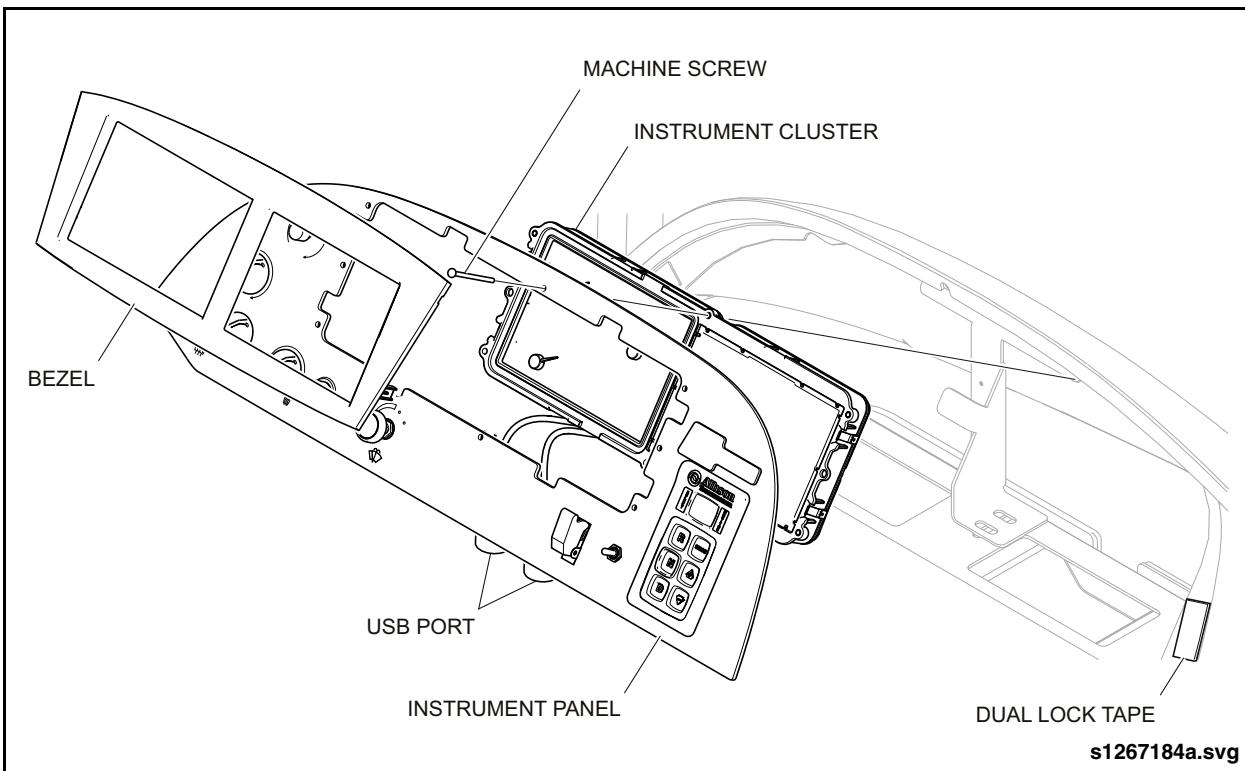

Fig. 19-12: Instrument Panel Repair & Installation
4. Remove the bezel by prying it away from the instrument panel. See "Fig. 19-12: Instrument Panel Repair & Installation" on page 27.